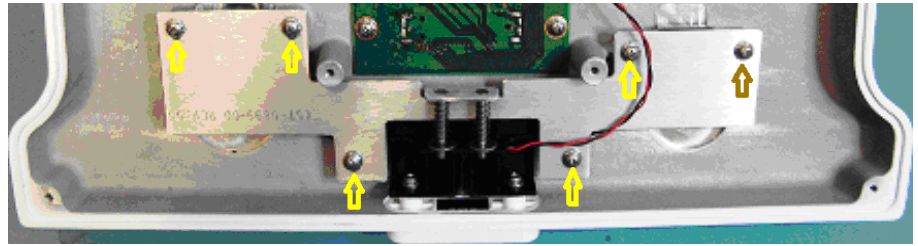

Figure 4-30 Latch Docking Station
- 6 To make room to slide out the docking station PCBA, loosen the six screws on the latch assembly in order. Refer to Figure 4-30 on page 4-33.
- 10 Perform functional tests in accordance with the monitor functional tests. Refer to Figure 4-30.
- 5** Remove the six (6) screws on the latch assembly. Refer to Figure 4-30 on page 4-33.
- 6** Carefully remove the pins, springs, and washers. Refer to Figure 4-30 on page 4-33.
- 7** Remove the two (2) screws from the push-button support bracket.
- 2** Remove the screws holding the push-button assembly. Refer to Figure 4-30 on page 4-33.